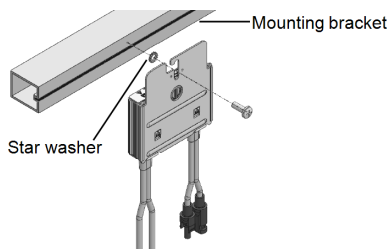

Figure 3: Power optimizer installation and grounding using a star washer
1. Determine the power optimizer mounting location and use the power optimizer mounting brackets to attach the power optimizer to the support structure (See Figure 3). For frame-mounted power optimizers follow the instructions supplied with the optimizers.